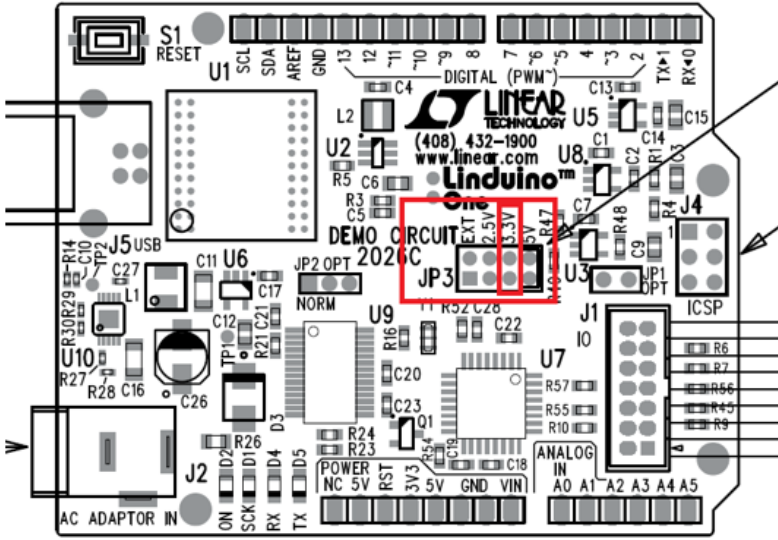

Figure 2: DC2026C Voltage Setting
- Set the DC2026C JP3 link to 3.3V as shown in fig. 2.